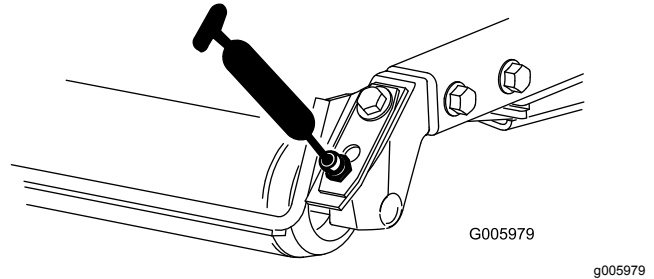

Figure 53
- Rear-roller bearings (2 per cutting unit) (Figure 53)